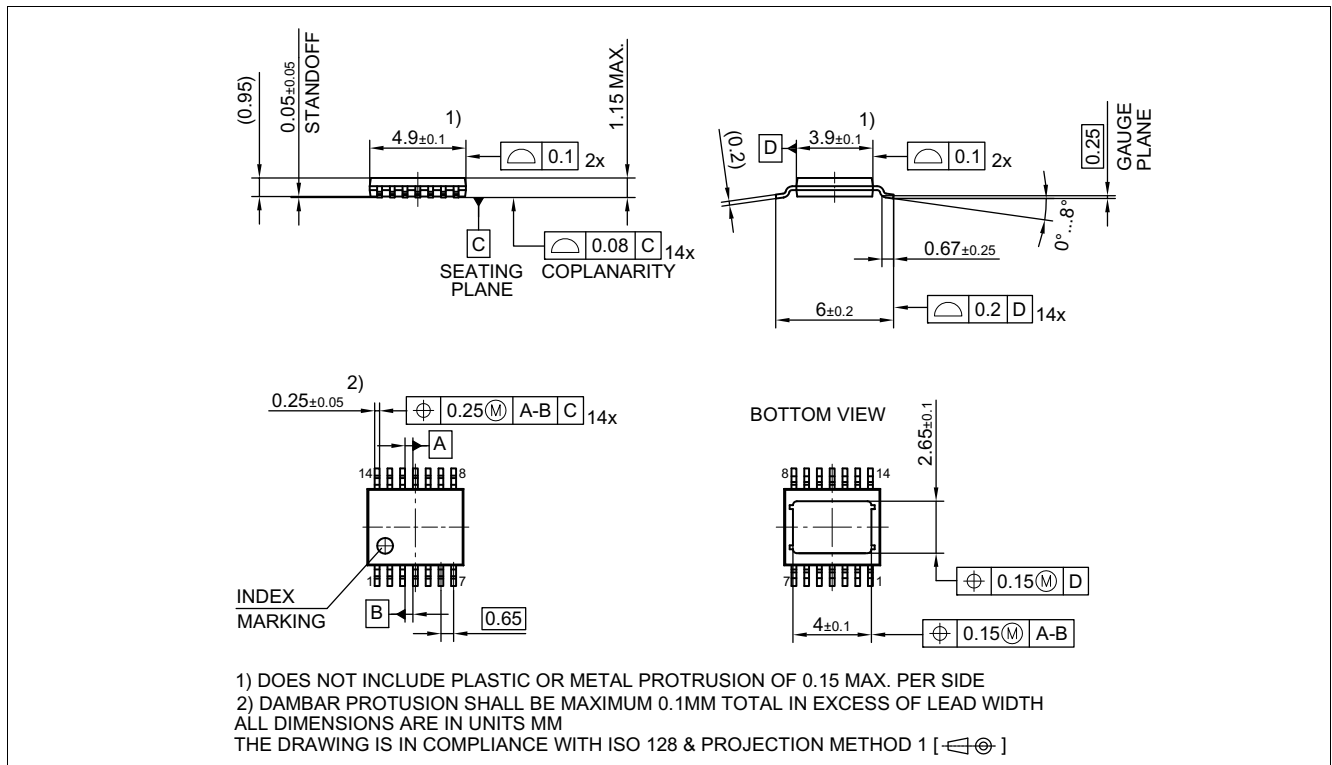
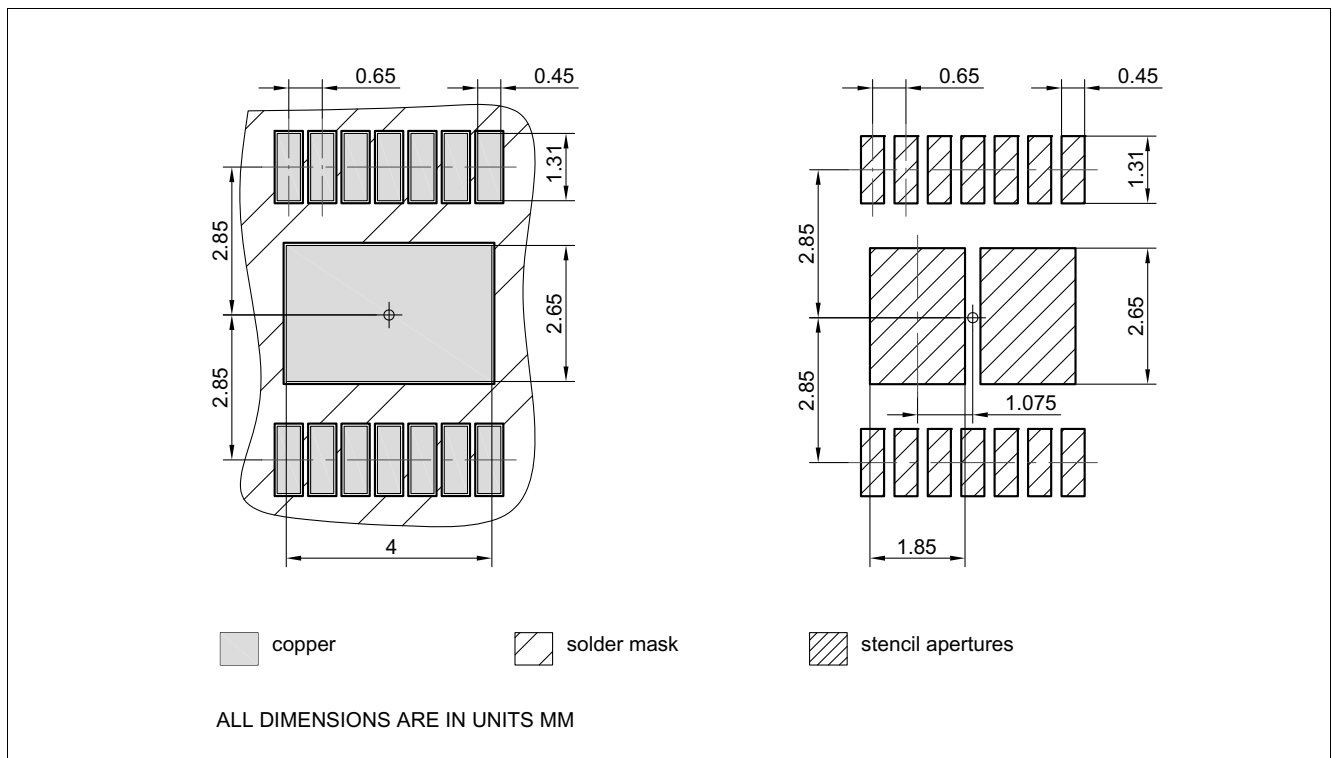

Figure 44 PG-TSDSO-14 (Thin (Slim) Dual Small Outline 14 pins) Package Outline
Figure 45 PG-TSDSO-14 (Thin (Slim) Dual Small Outline 14 pins) Package pads and stencil
1.03, 2018-10-18	<p>Chapter 9.3.1 updated (typo)  Page 1: updated (Package PG-TSDSO-14-22 → Package PG-TSDSO-14)  Figure 29 updated  Figure 44 updated (PG-TSDSO-14-22 (Thin (Slim) Dual Small Outline 14 pins) Package Outline → PG-TSDSO-14 (Thin (Slim) Dual Small Outline 14 pins) Package Outline)  Figure 45 updated (PG-TSDSO-14-22 (Thin (Slim) Dual Small Outline 14 pins) Package pads and stencil → PG-TSDSO-14 (Thin (Slim) Dual Small Outline 14 pins) Package pads and stencil)  Table 1 updated ((Symbol: <math>I_{VS(SLEEP)}</math> → <math>I_{VS(SLEEP)_{85}}</math>), (Parameter: Minimum Overvoltage protection (<math>T_J = 25\text{ °C}</math>) → Minimum Overvoltage protection (<math>T_J \geq 25\text{ °C}</math>))  P_9.6.0.6 updated (Note or Test Condition: removed unnecessary line-break)  Chapter 7.4.1 updated chapter title (PROFET → PROFET™)  Table 12 updated table title (PROFET → PROFET™)  Chapter 8.6.1 updated chapter title (PROFET → PROFET™)  Table 16 updated table title (PROFET → PROFET™)  Chapter 9.5.1 updated chapter title (PROFET → PROFET™)  Table 21 updated table title (PROFET → PROFET™)  P_4.1.0.21, P_4.1.0.22, P_4.1.0.23, P_4.1.0.24 updated (footnote ESD standards)  Table 1 updated (<math>R_{DS(ON)}</math> → <math>R_{DS(ON)_{150}}</math>), (<math>V_{DS(CLAMP)}</math> → <math>V_{DS(CLAMP)_{25}}</math>)  Chapter 8.5.2 updated phrasing  P_7.5.3.14 Table subheading "Switching Energy" added  P_7.5.3.15 Table subheading "Switching Energy" added  Chapter 6.4 added conditions  Chapter 7.5 added conditions  P_7.5.3.14 updated (Test condition: add "See Figure")  P_7.5.3.15 updated (Test condition: add "See Figure")  Chapter 8.7 added conditions  Chapter 9.6 added conditions  P_9.7.3.27 updated (Test condition: add "See Figure")  P_9.7.3.29 updated (Test condition: add "See Figure")  Chapter 7.3.1 typo corrected (link to Figure 19 added)</p>